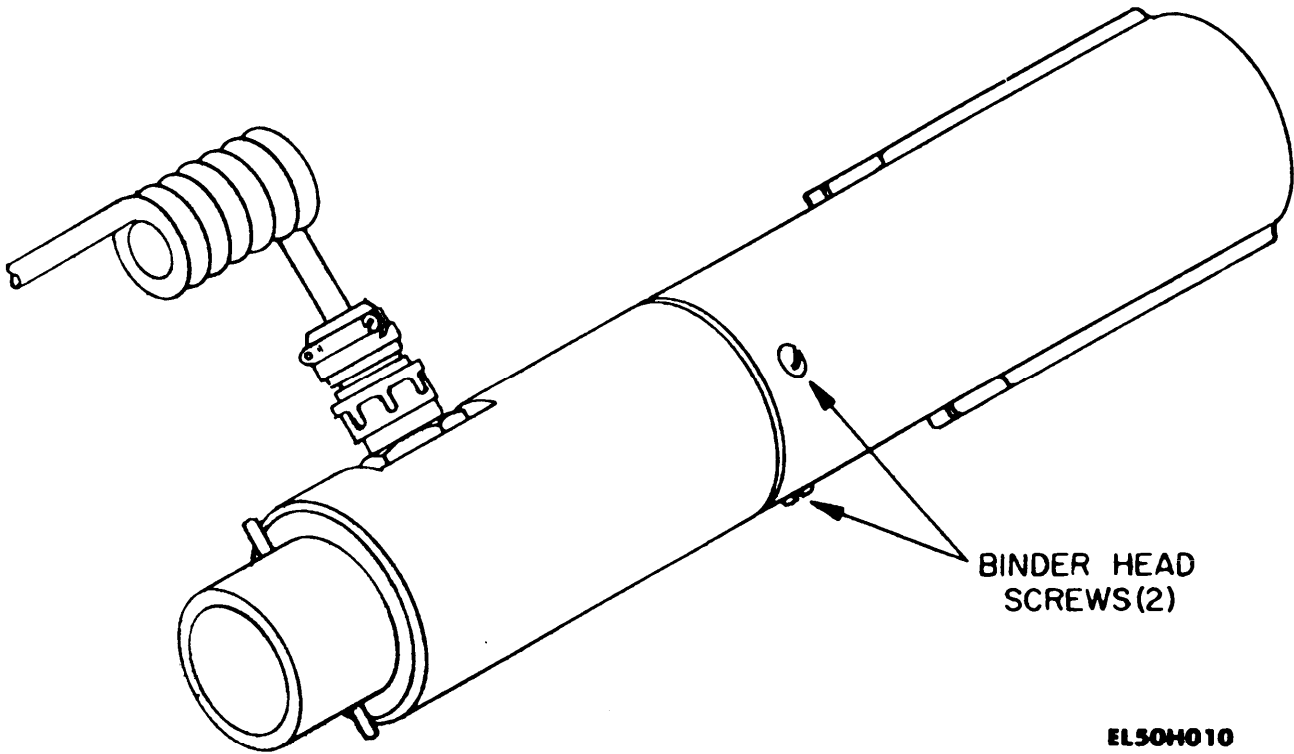

Figure 2-5. Aux Probe Installed on Main Probe Handle
b. Remove two binder head 1/4 inch screws (Figure 2-5) from the main probe handle (below the cable connector). Retain the screws.